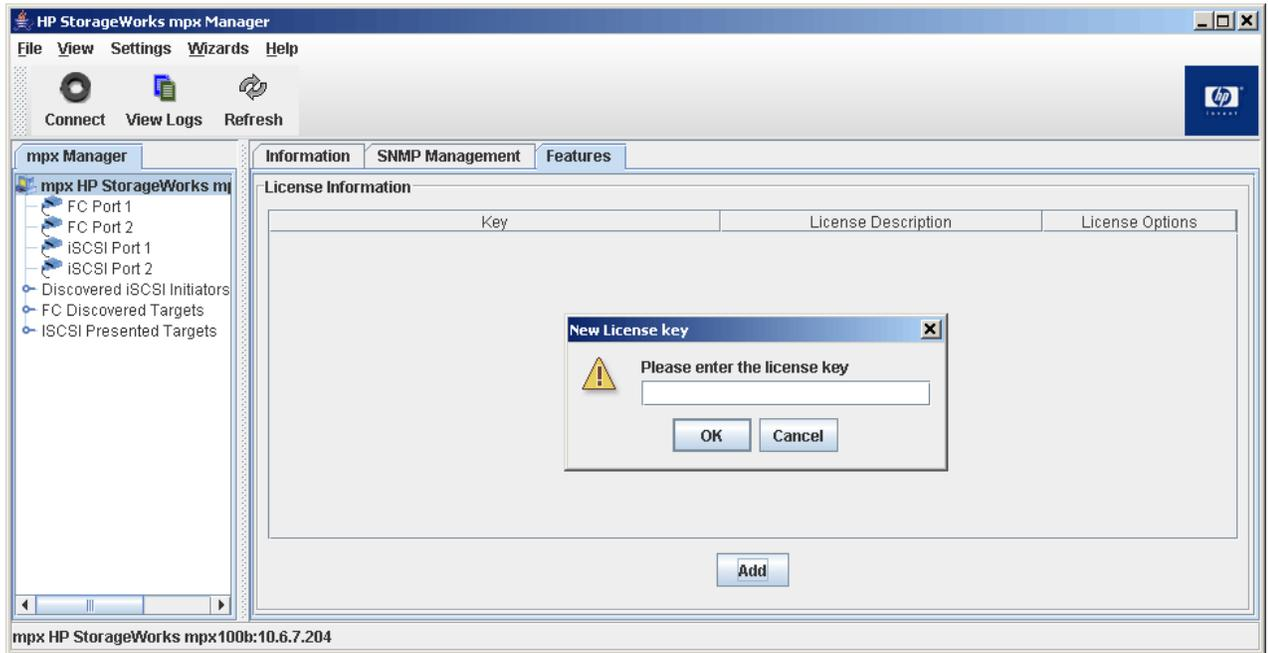

Figure 68 New license key dialog box
4. Enter the license key in the New License Key dialog box (Figure 68).